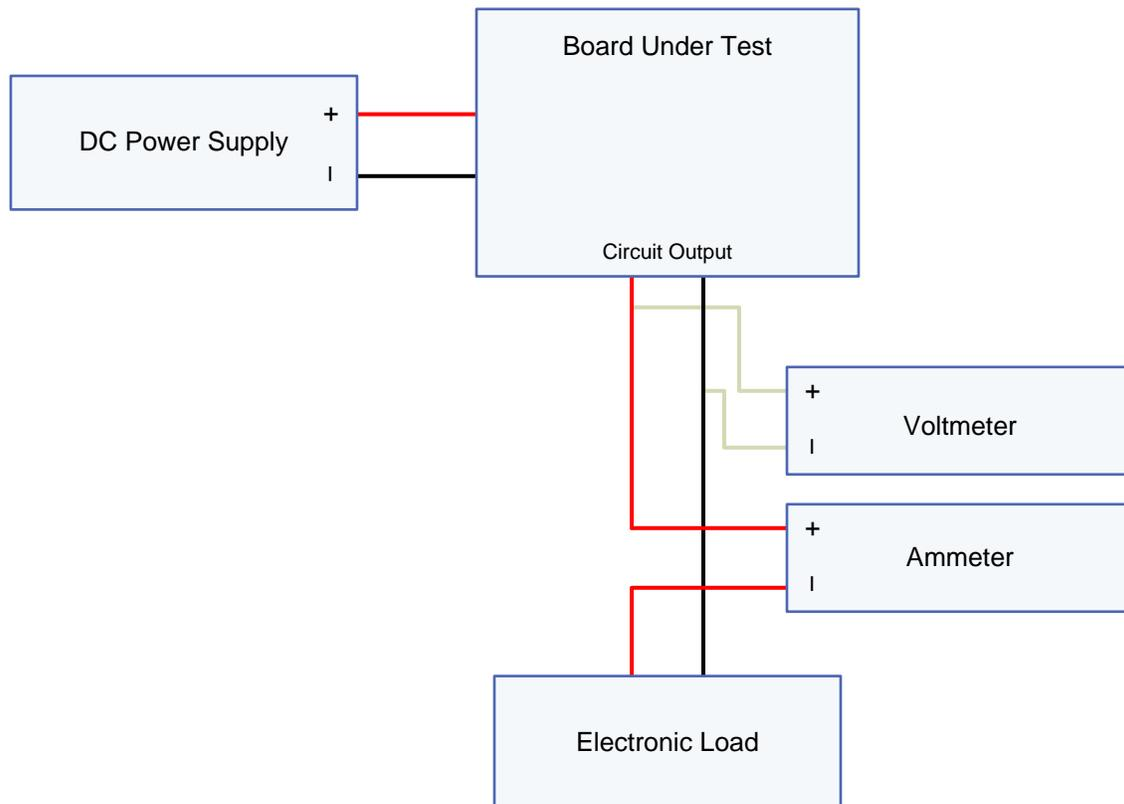

Figure 29. Setup for Measuring Load Regulation of Voltage Rails
To test how well each voltage rail behaves under loading, see the setup in Figure 29. A DC-power supply with a setting of 13 V was the input power to the system. A voltmeter was placed across the output connectors of each output and the electronic load in use had an internal Ammeter monitoring the load current. The electronic load was applied at the output connectors of each voltage rail. Using an oscilloscope, V_{OUT} , Load CurrentV, and the Switching Node (PH) waveforms were captured. For the LDOs, output-voltage noise was monitored instead of ripple voltage and there was no PH waveform to capture. The outputs were monitored with no load, a light load, and maximum load. Intermittent load steps were also observed to determine how well the output was regulated and provide the information in the Load Regulation graphs in the Test Data section.